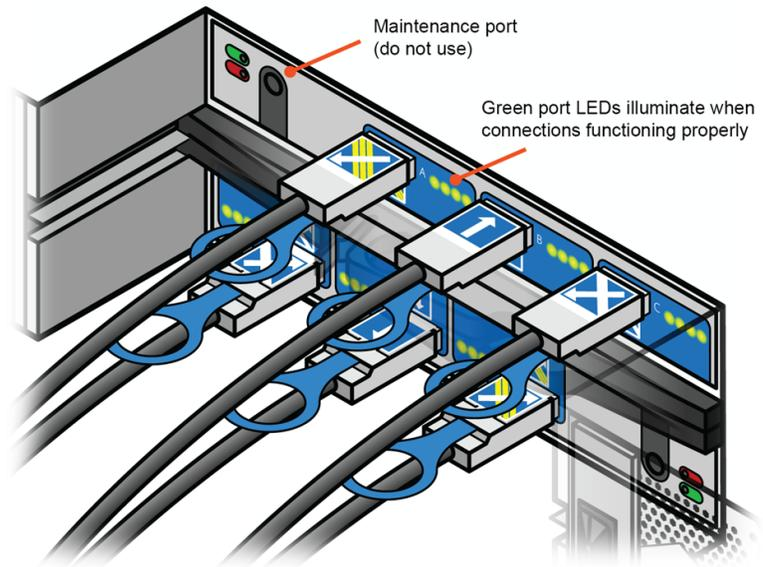

Figure 17-4. Checking SAS Connections
4. Verify that the four LEDs next to the shelf IOM SAS ports on each shelf that is connected to a cable are illuminated. LEDs might blink due to I/O activity. See Figure 17-4.